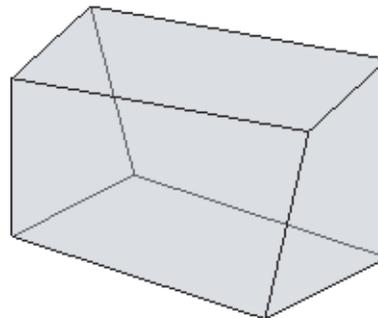

Figure 1–14
- To change the material for the entire mass element, select it and in Properties, change the **Mass Material** parameter (as shown in Figure 1–15) to a different material (as shown in Figure 1–16). This only works for the standard mass elements that are included in the library.